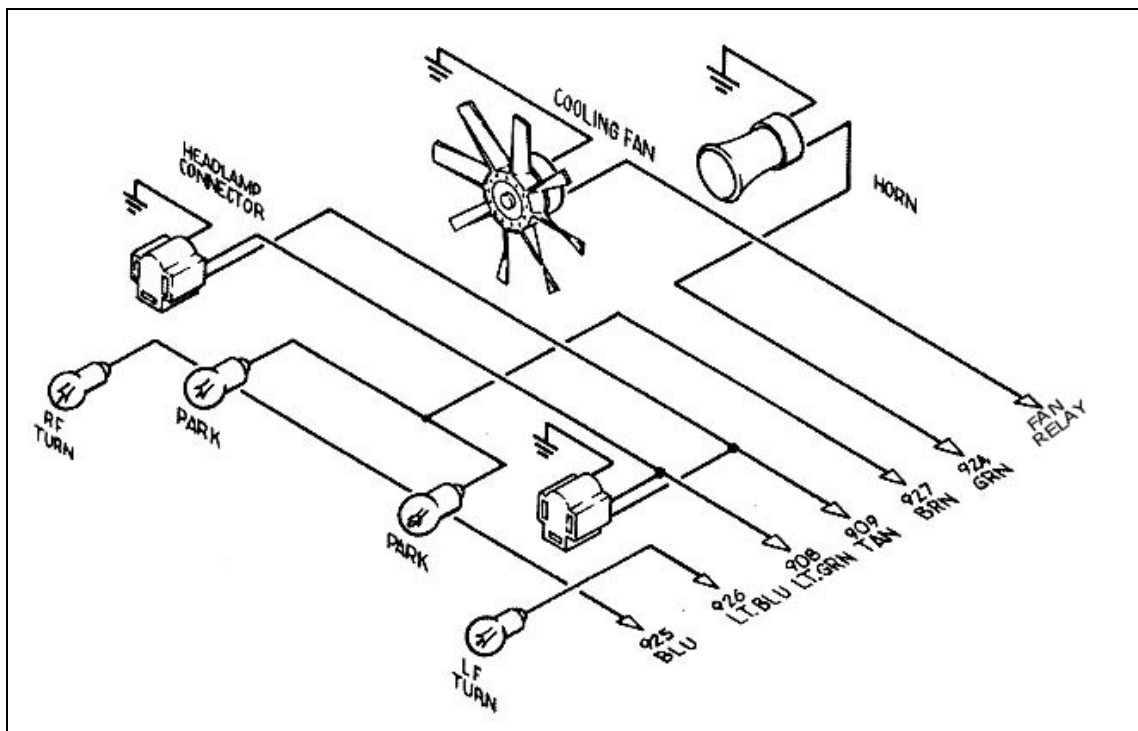

Figure 5-4B HEADLIGHT SECTION Wiring
5.5 HEADLIGHT SECTION See Figure 5-4B.
Note: The wire going to the fan in Figure 5-4B will be coming from the fan relay output terminal. Wire #901 (gry/wht) from the fan switch is an activation wire for the fan relay.